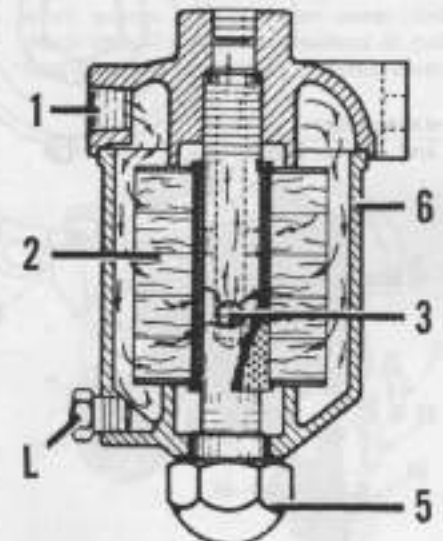

Fig. MH163—Section through LP-Gas filter used on models 44 and 55.
85. Filters used on these systems are subjected to pressures as high as 150 psi and should be able to stand this pressure without leakage. Unit should be drained periodically at the blow off cock (L—Fig. MH163). When major engine work is being performed it is advisable to remove the lower part of the filter, thoroughly clean the interior and renew the felt cartridge if same is not in good condition.